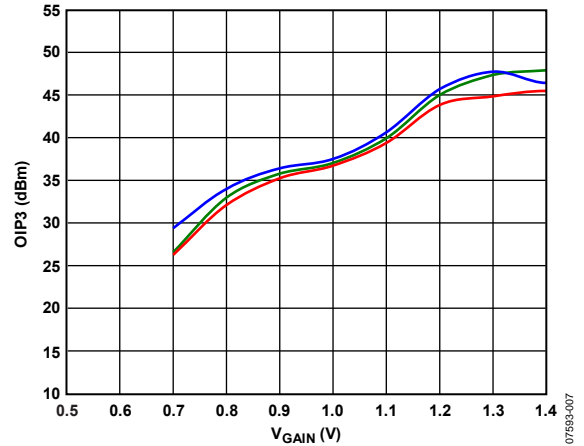
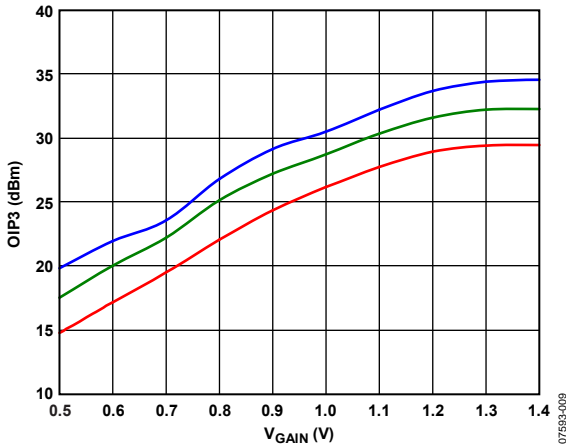

Figure 7. Output IP3 vs.  $V_{GAIN}$  at 100 MHz
Figure 9. Output IP3 vs.  $V_{GAIN}$  at 900 MHz
At high gain settings, the noise floor is set by the input stage, in which case the noise figure (NF) of the device is essentially independent of the gain setting. Below a certain gain setting, however, the input stage noise that reaches the output of the attenuator falls below the input-equivalent noise of the output stage. In such a case, the output noise is dominated by the output stage itself; therefore, the overall NF of the device gets worse on a dB-per-dB basis as the gain is lowered, because the gain is reduced below the critical value. Figure 7 through Figure 9 provide details of this behavior.
The 1 dB input compression point remains constant at 3 dBm through the majority of the gain control range, as shown in Figure 7 through Figure 9. The output compression point increases decibel for decibel with increasing gain setting. The noise floor is constant up to  $V_{\text{GAIN}} = 1$  V where it begins to rise.